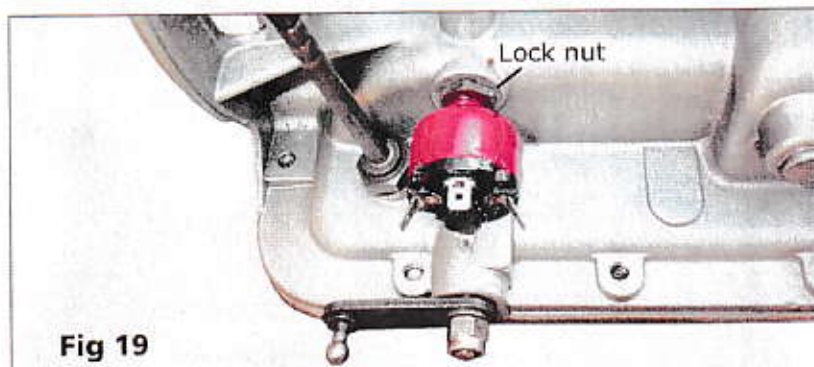

Fig 19
Cables are attached in opposite pairs as indicated on figure 19 which has been taken from the gearbox manual for the Jaguar 240 and 240. Reverse light terminals should be at 45 degrees to the switch end plate as in the diagram but may not have remained this way in service. The colours may not apply to all of these cars and probably differ on other models.
2. Try to identify cables from figure 19 or vehicle wiring diagram. If this cannot be accomplished proceed with operation.